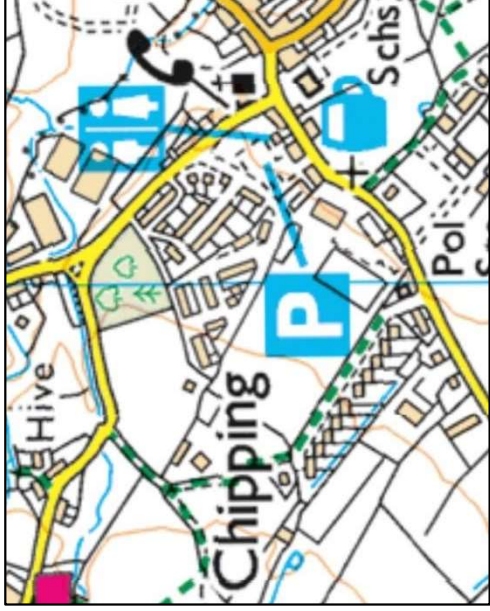

**Figure 3**
8.9 **Welfare Facilities** – see Figure 3